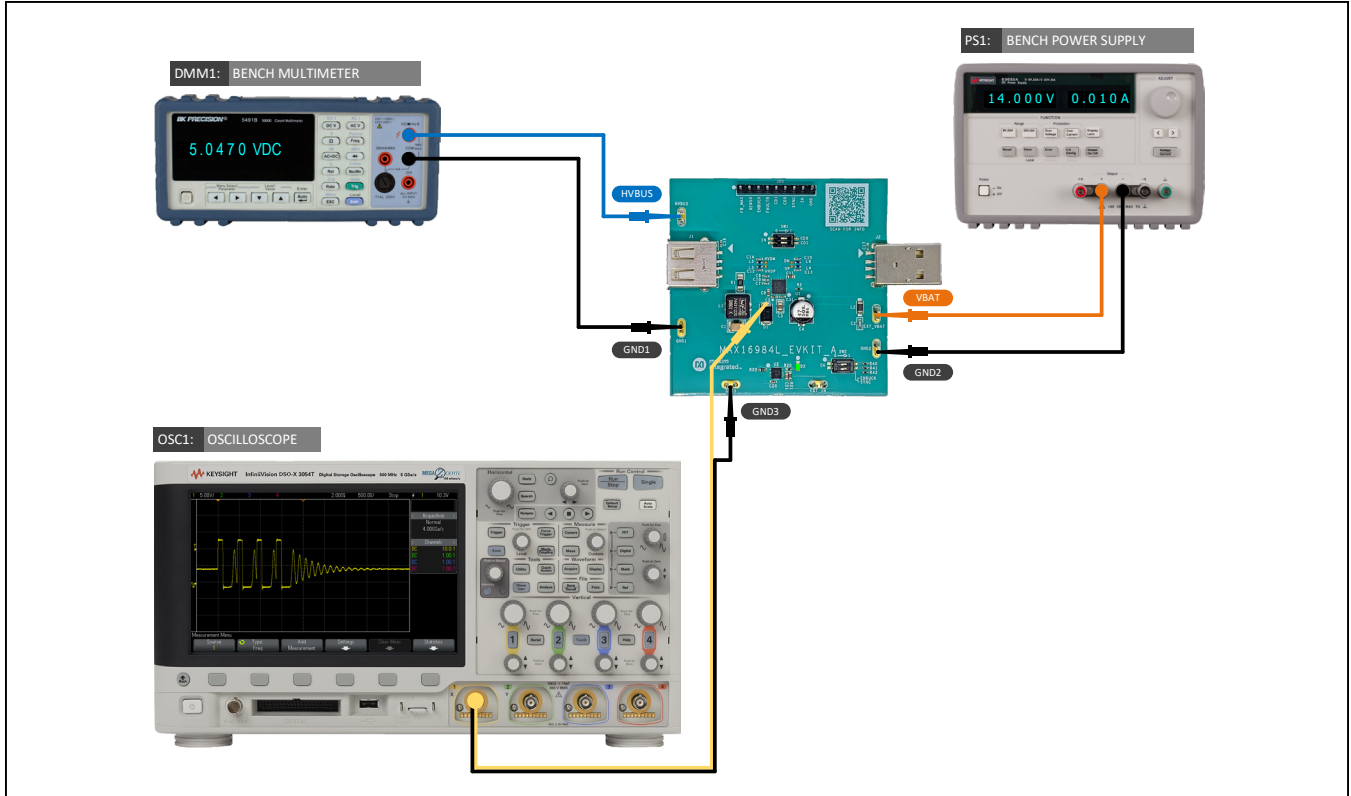

Figure 3. Test Setup for Buck SKIP Mode
- 2) Setup test equipment as shown in Figure 3.